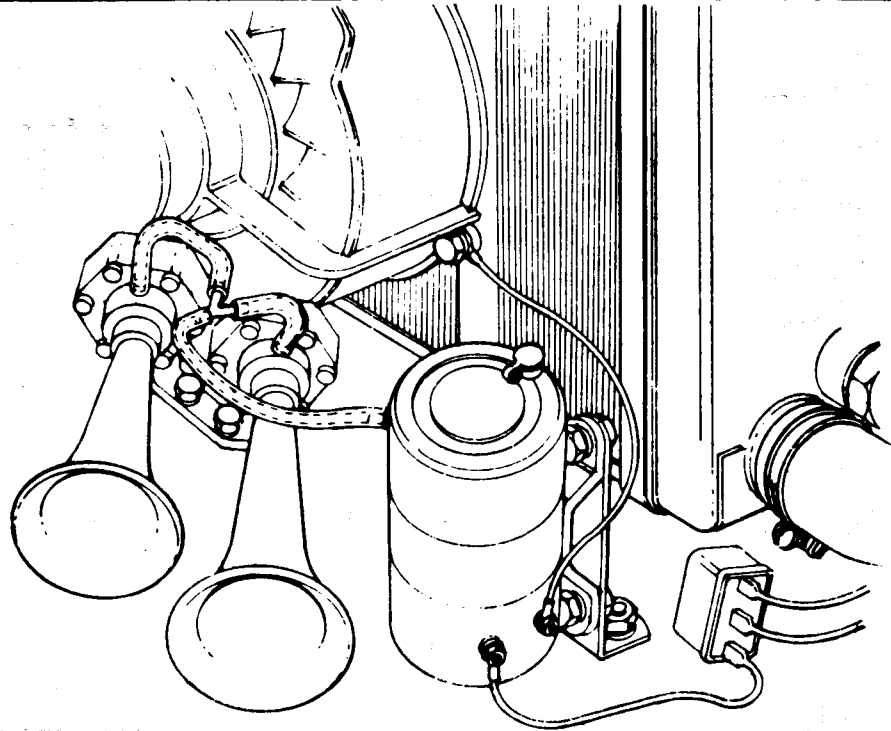

Fig.34 - Air Horns Installation.
Mount the trumpets, compressor and relay as shown in Fig. 34.
1. Insert the tool (Fig 34) between the front bezel and the front rim, sliding round to bottom of the rim. Give a sharp tug in an upward and forward direction with the tool, whereupon the front bezel will be pulled clear of the front rim.